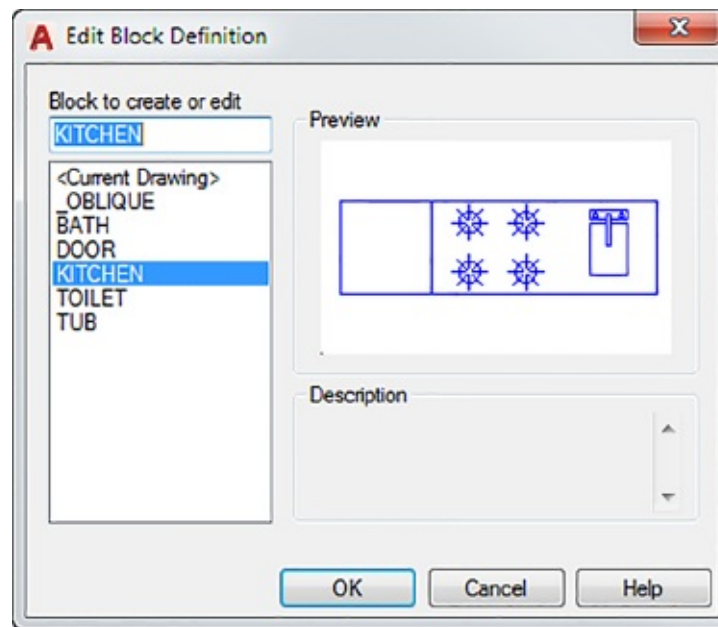

FIGURE 17.1 The Edit Block Definition dialog box
2. Double-click the kitchenette in the plan to open the Edit Block Definition dialog box (see Figure 17.1). Notice that all the blocks in the drawing are listed in the dialog box and that the Kitchen block is highlighted. You also see a preview of the block in the preview group.